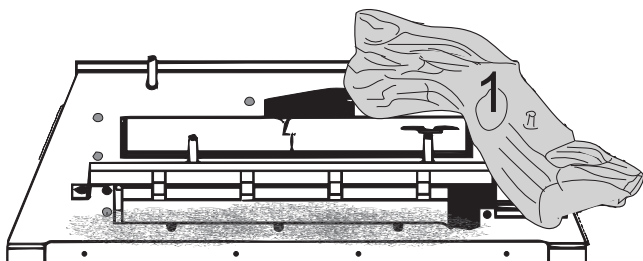

Figure 6.2 - Log #1 Placement
2. Place log #1 on the right-hand side of the burner assembly by positioning the pin locator hole on the bottom of the log over the pin on the right-hand side of the burner and by rotating the log clockwise toward the back to contact the rear bend on the sheet metal of the burner assembly. With the log in place, make sure that the notch on the bottom of the log match up with the bracket on the grate. See Figure 6.2.